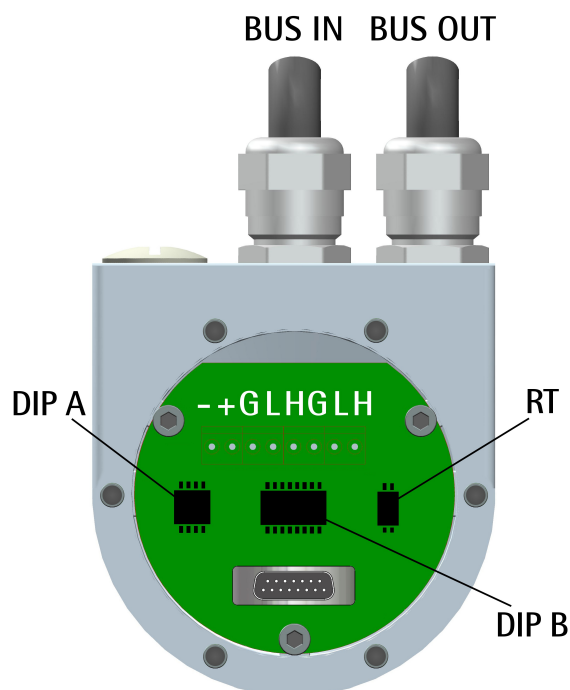

Figure 2 - Connection cap
5.4 Setting the node address: DIP B (Figure 2)
5.5 Setting the baud rate: DIP A (Figure 2)
5.6 Setting the RT Bus termination resistance (Figure 2)